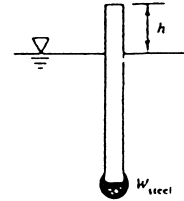

Fig. P2.113
**2.113** A *spar buoy* is a rod weighted to float vertically, as in Fig. P2.113. Let the buoy be maple wood (SG = 0.6), 2 in by 2 in by 10 ft, floating in seawater (SG = 1.025). How many pounds of steel (SG = 7.85) should be added at the bottom so that  $h = 18$  in?
**2.115** The 2 inch by 2 inch by 12 ft spar buoy from Fig. P2.113 has 5 lbm of steel attached and has gone aground on a rock. If the rock exerts no moments on the spar, compute the angle of inclination  $\theta$ .